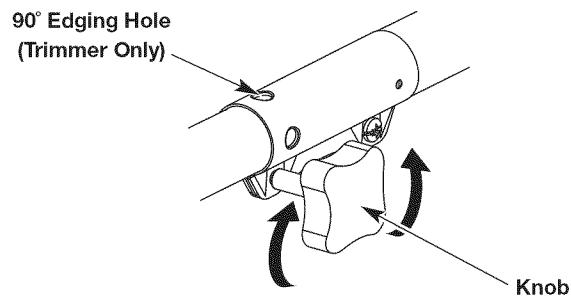
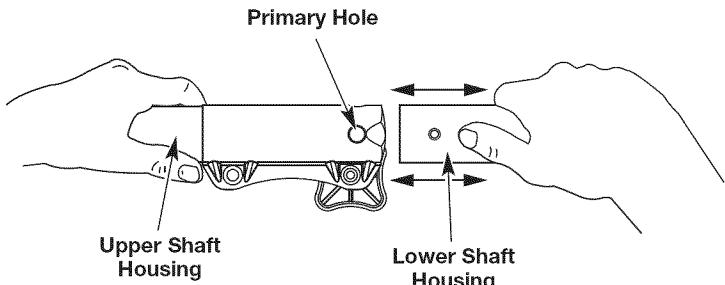

Fig. 3
Fig. 5
1. Turn the knob counterclockwise to loosen (Fig. 3).
2. While firmly holding the trimmer attachment or other attachment, push it straight into the Convertible™ coupler until the release button snaps firmly into the primary hole (Fig. 5).
3. Turn the knob clockwise to tighten (Fig. 3).
**CAUTION:** Before operating this unit, be sure that the release button is fully snapped into the primary hole (Fig. 5), and that the knob (Fig. 3) is securely tightened.
For decorative edging with the line head trimmer attachment, lock the release button of the attachment into the 90° hole (Fig. 3).
3. While firmly holding the upper shaft housing, pull the trimmer attachment or other attachment straight out of the Convertible™ coupler (Fig. 5).